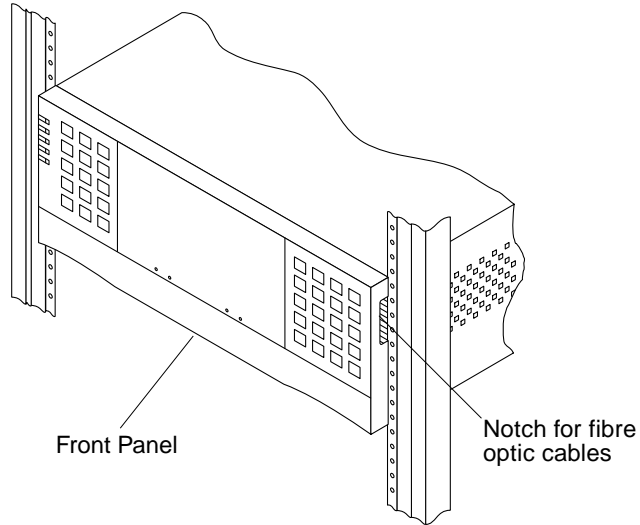

FIGURE 2-10 The Front Panel of the Controller Module (Upgrade)
1. Remove the front panel from the controller module (FIGURE 2-10).
- 14. Reinstall the front panel on the controller module** (FIGURE 2-10).